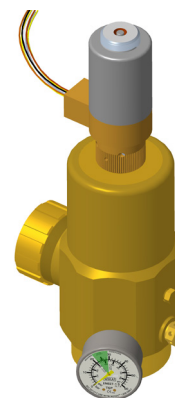

FIGURE 6-23
3. Carefully screw the actuator to the valve assembly. See Figure 6-23.